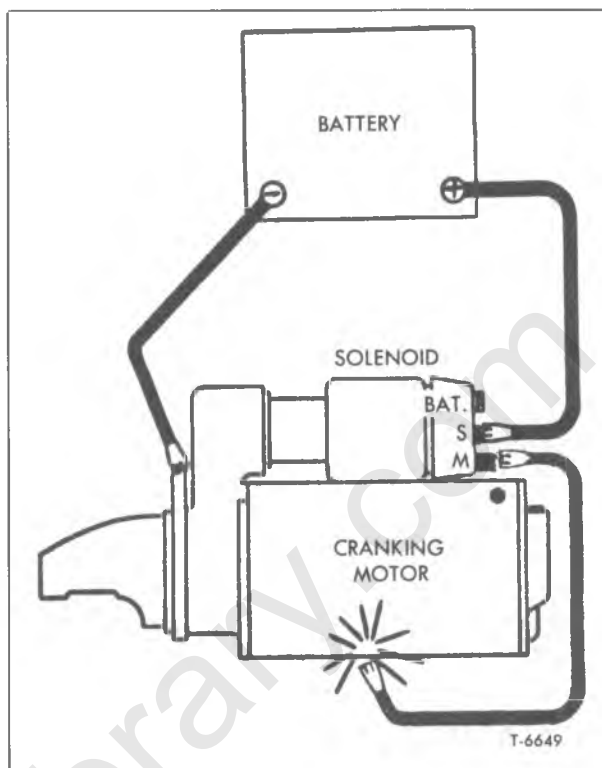

Figure 3—Circuit for Checking Pinion Clearance
1. Connect a voltage source of approximately 6 volts between the solenoid switch terminal (S) and ground.
IMPORTANT: DO NOT connect voltage source to ignition coil (R) terminal of solenoid. DO NOT use a 12-volt battery in place of the 6-volt battery specified as this will cause the starter to operate. As a further precaution to prevent motoring, connect a heavy jumper lead from solenoid motor terminal to ground (fig. 3).